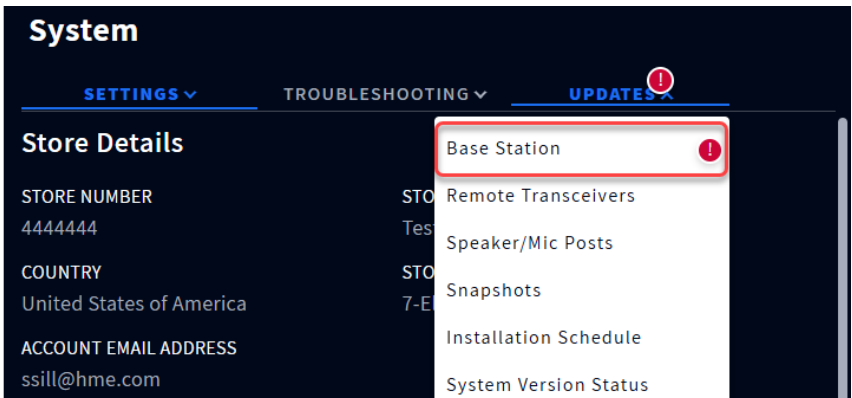

Fig. 15.11
3. Select Base Station from the drop-down list (Fig. 15.11).